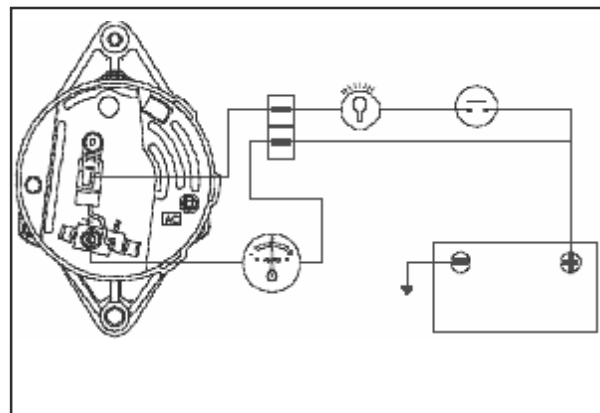

Fig 7
**TEST 4 - Checking alternator maximum output (Fig. 7)**